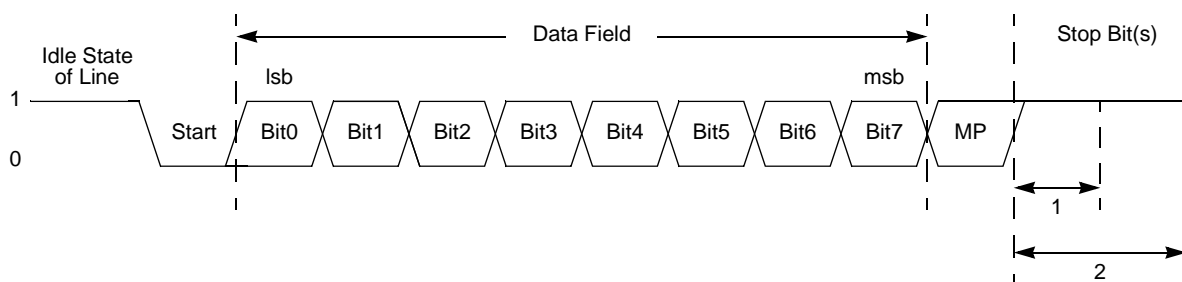

Figure 13. UART Asynchronous MULTIPROCESSOR Mode Data Format
The UART has a MULTIPROCESSOR (9-bit) Mode that uses an extra (9th) bit for selective communication when a number of processors share a common UART bus. In MULTIPROCESSOR Mode (also referred to as 9-bit mode), the multiprocessor bit (MP) is transmitted immediately following the 8-bits of data and immediately preceding the Stop bit(s) as displayed in Figure 13. The character format is given below: